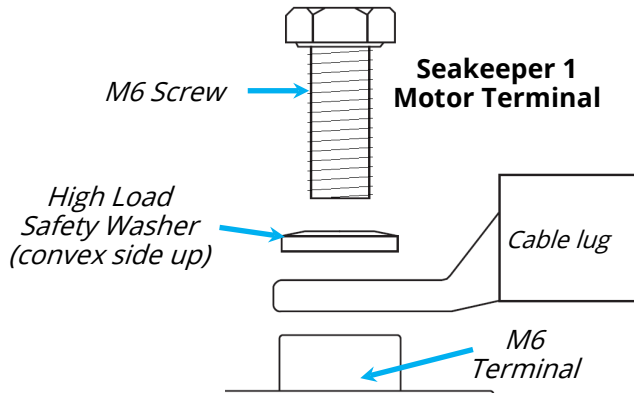

Figure 14: Curtis drive motor phase terminals
- b. For Seakeeper 1, **TORQUE** motor terminal screws to **90 in-lbs (10.2 Nm)** per Figure 14.